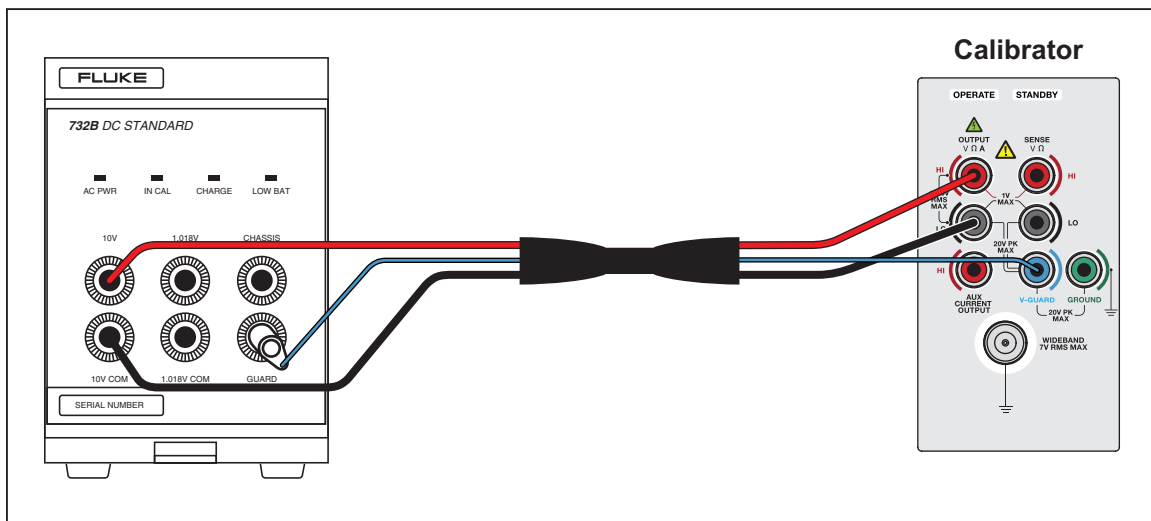

Figure 1. 732B External Calibration Connections
4. Connect the 732B to the Product as shown in Figure 1.